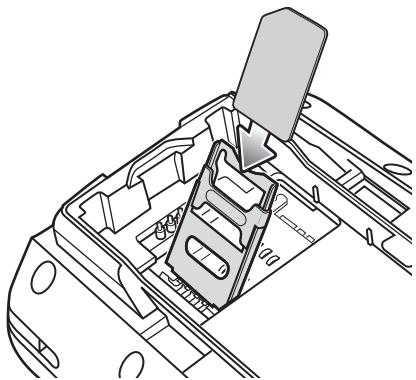

Figure 1-4 Inserting the SIM Card
3. Insert the SIM card, as shown in Figure 1-4, with the cut edge of the card facing out and the contacts facing down.